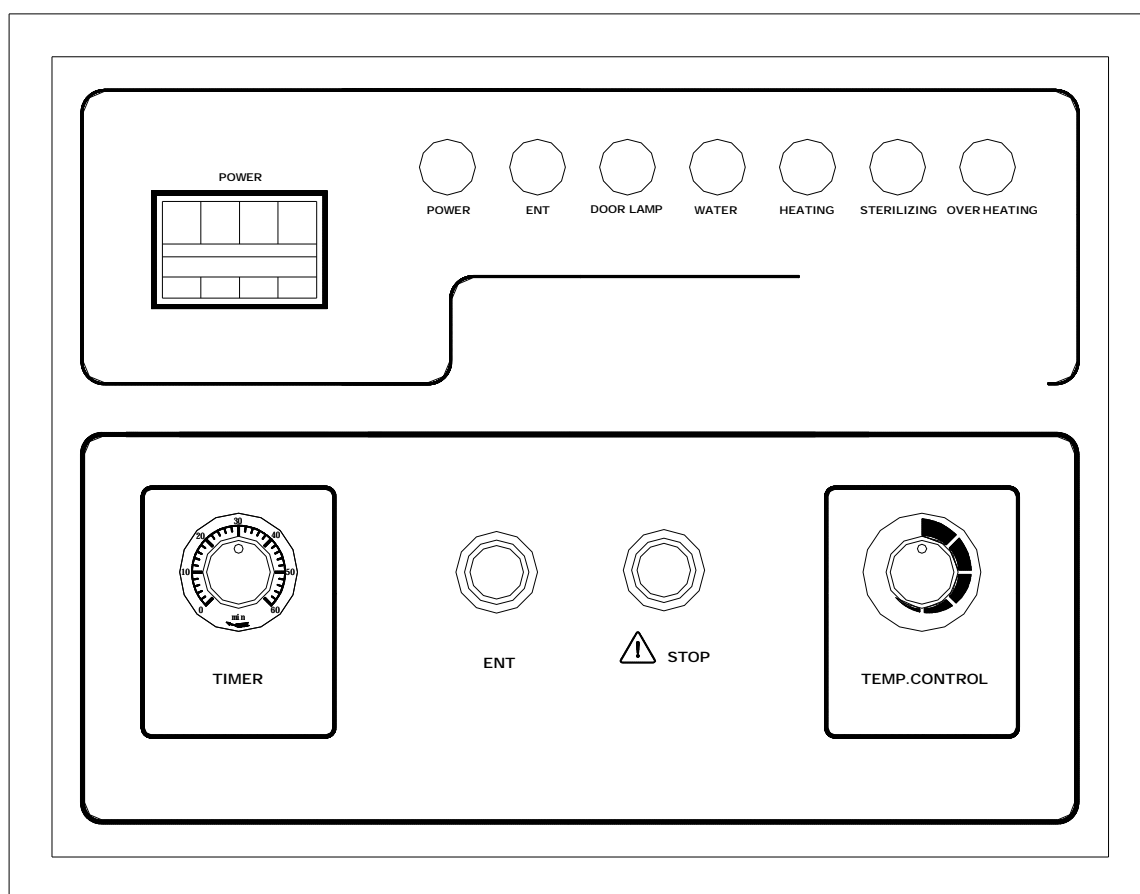

Fig1
- I The vaporizer, gauge in front above easy watch, the thermometer on the side, all the pilots and display in front lower part control box for easy operating. (fig.1)